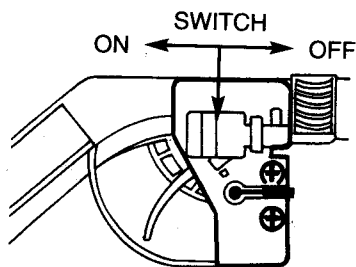

FIG 10
1. Place lawn edger on ground in horizontal position (see Fig. 14). Be sure the ignition switch is "ON". Slide switch toward operator to turn ON. Switch located on right side of trigger (See Fig. 10).